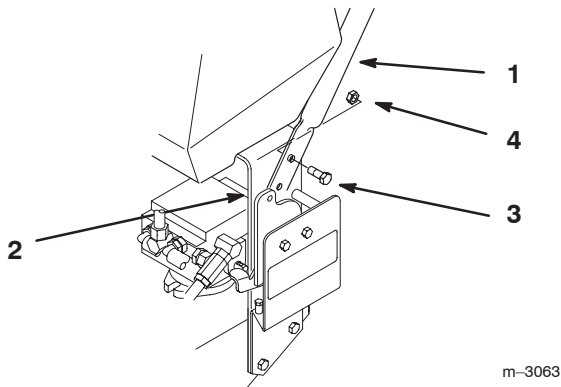

Figure 3
1. Align upper handle with mounting holes in rear frame (Figure 3). Select high, medium or low position for lower mounting hole.
2. Secure each side with 2 flange bolts (3/8 x 1 inch) and 2 flange nuts (Figure 3). Torque bolts to 25 ft-lb (34 N·m).